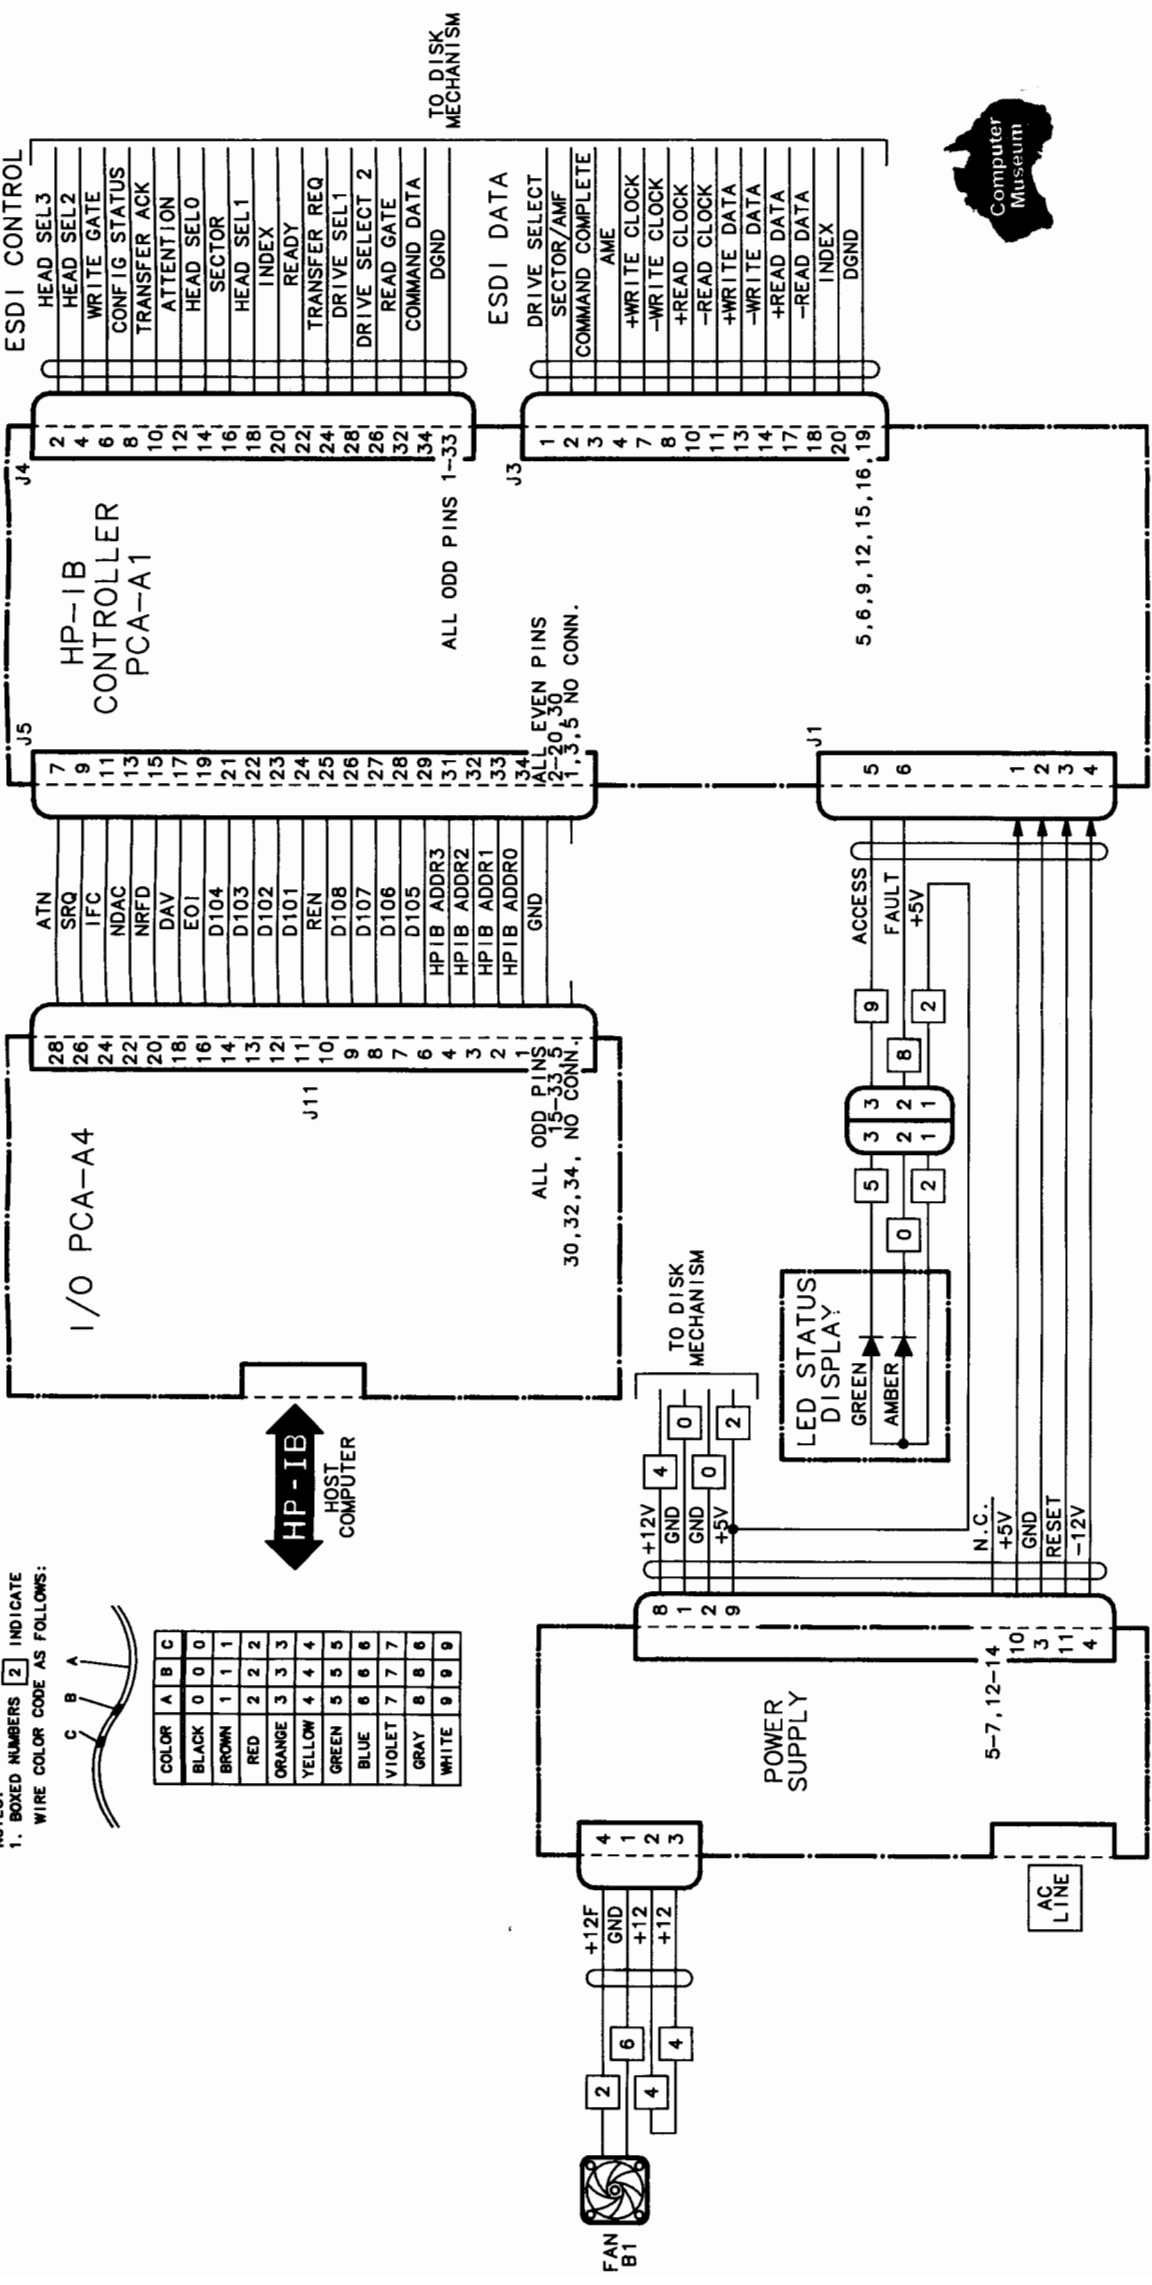

Figure 9-2. 335H and 670H Signal Distribution
- Figure 9-2. 335H and 670H Signal Distribution